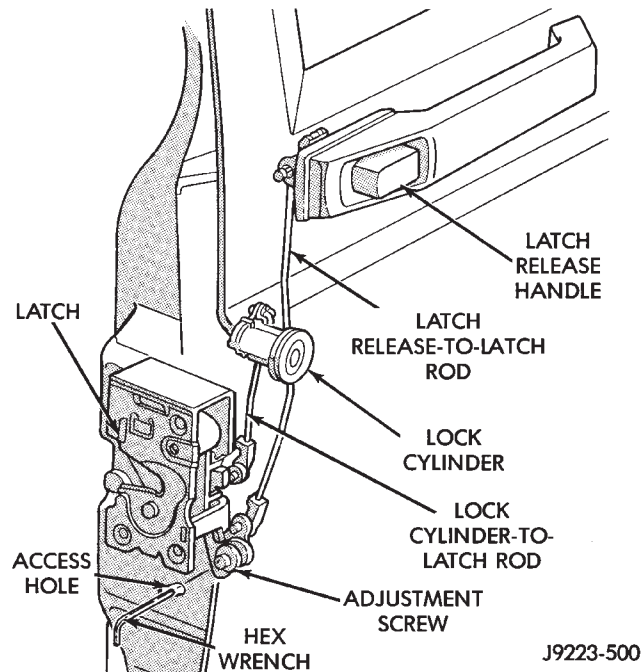

Fig. 71 Door Latch Adjustment
(1) Remove the access hole plug from the latch face (Fig. 71).